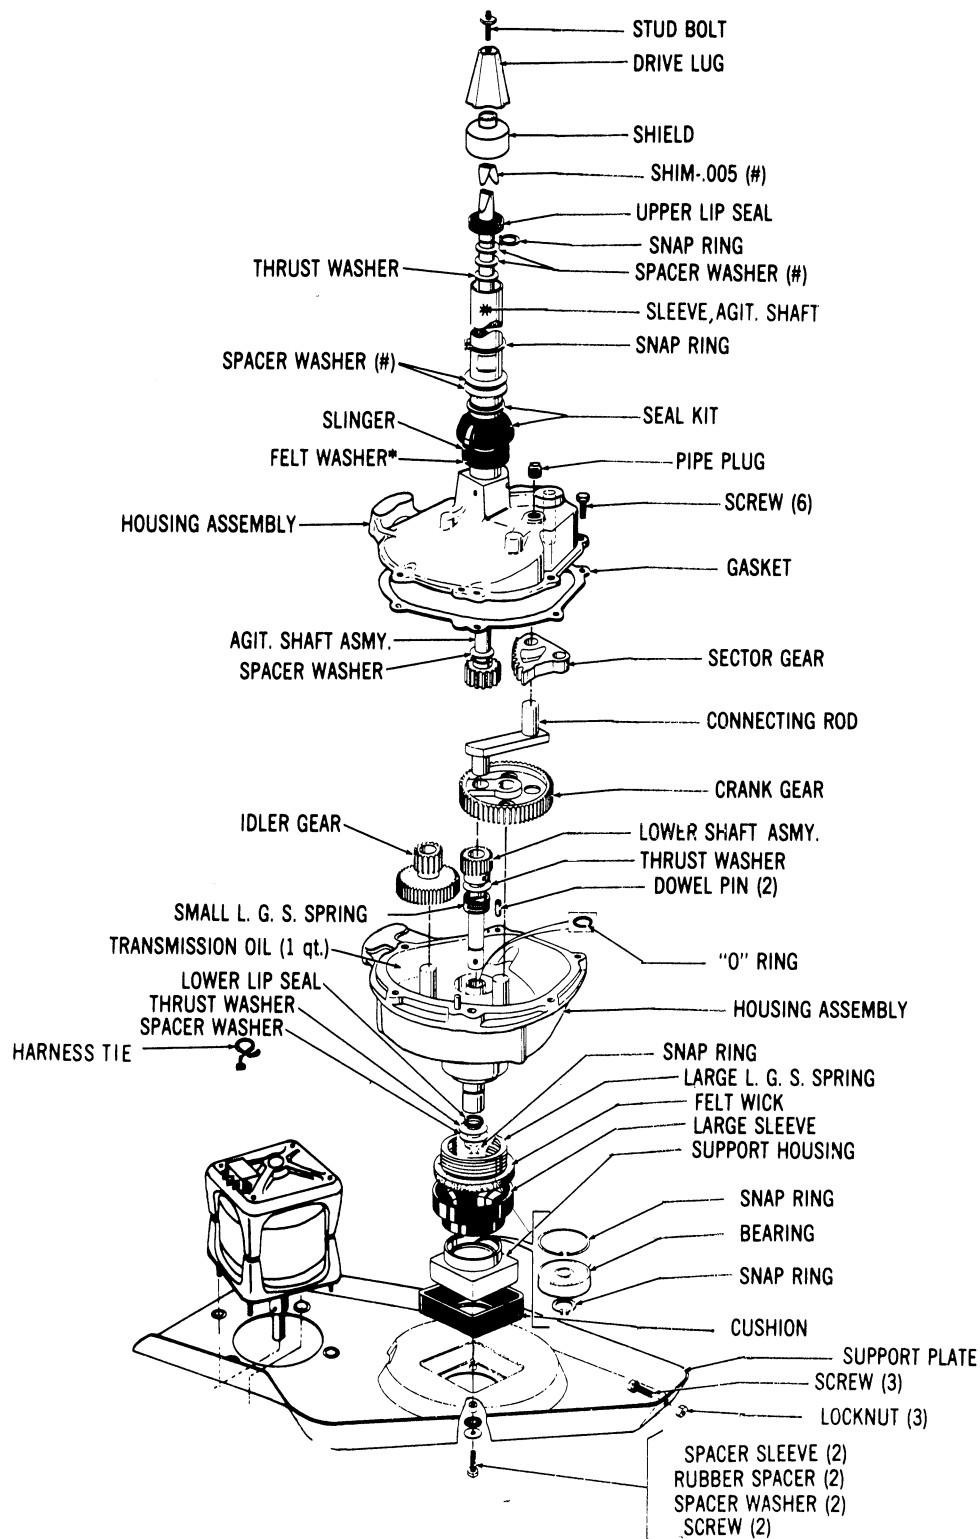

Figure 108 — Transmission
9. Remove rubber cushion from housing. Then, turn the housing counter-clockwise and pull it off. All parts on hub of gear case will usually come off with the housing as an assembly. The center race of bearing may stick on the steel tube. Tap **LIGHTLY** on each corner of housing and pull. See *Figure 108*.